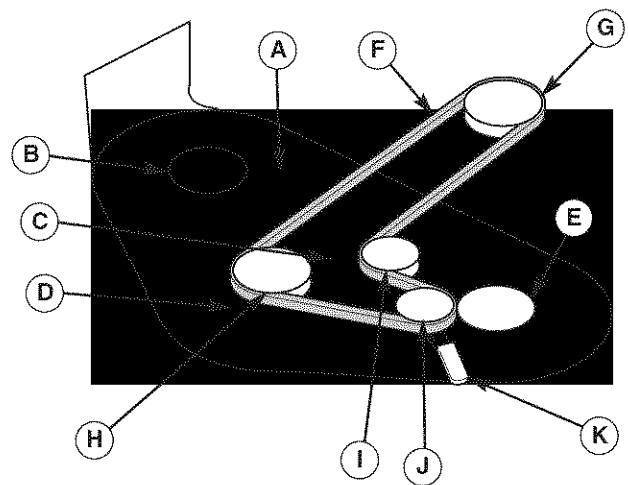

**Figure 40. Front-to-Back Leveling**
2. To raise or lower the front of mower deck, loosen lock nut (A, Figure 40 inset) and turn eccentric nut (B).
3. Recheck measurement before tightening lock nut (A) against bracket.